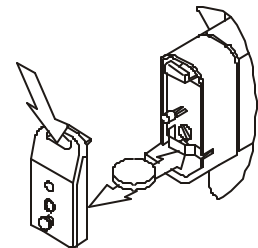

Figure 7
- ⌘ Reset the timer by pressing the red button on the handle. The LED will flash twice to indicate reset. If the LED flashes 20 times after pressing the reset, battery replacement is required (figure 7).